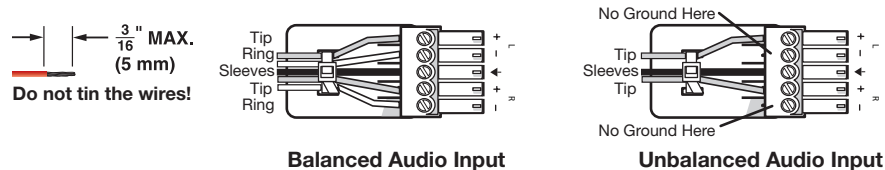

Figure 5. Analog Input Connector Wiring
- D Analog audio input** — Connect an analog audio device to this 5-pole 3.5 mm captive screw connector (see figure 5). This connector accepts 2-channel stereo balanced or unbalanced audio.